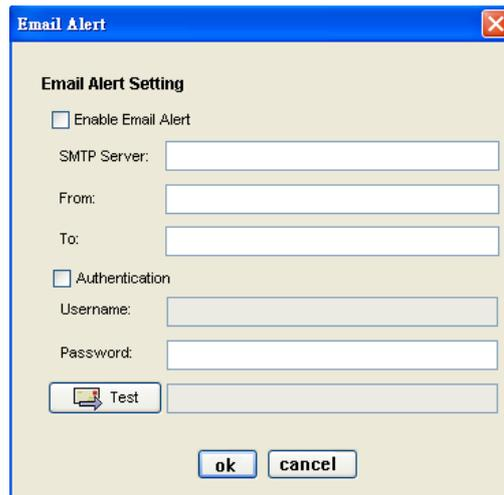

Figure 12-3
- Email: displays an Email alert setting dialog box (see Figure 12-3). Fill in the SMTP server, From (email address) and To (email address) fields. Please notice that the From and To email addresses must be valid in the SMTP server. If the SMTP server requires authentication, please fill in the username and password fields. Once the necessary fields have been filled in, click the Test button to verify that the email function works.